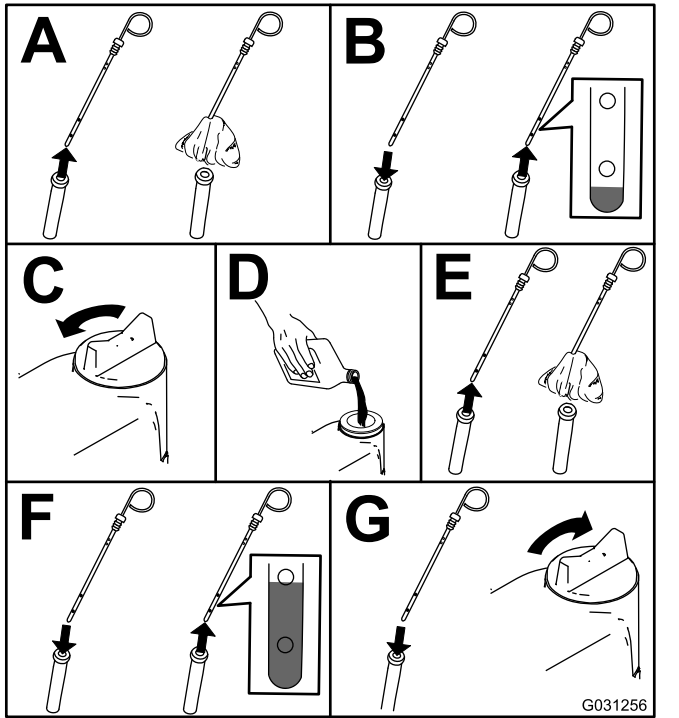

Figure 74
2. Check the engine-oil level (Figure 74).